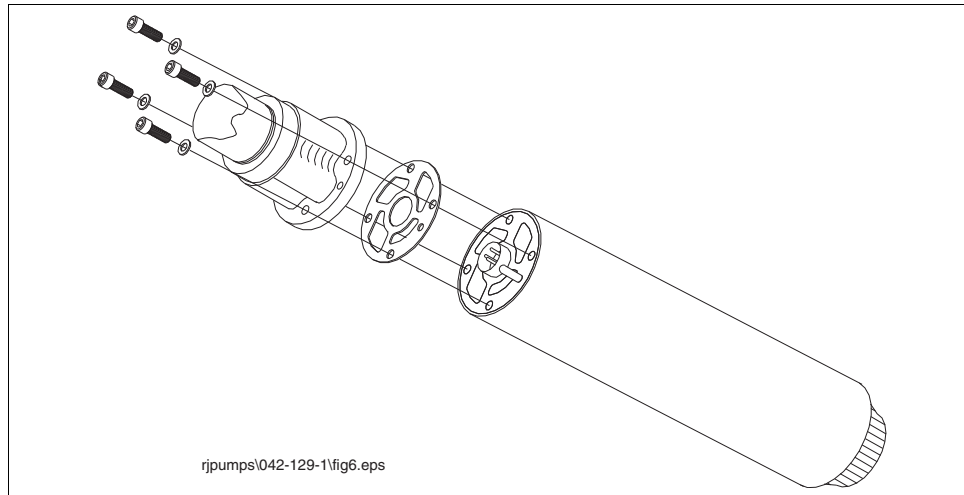

Figure 7. Aligning the UMP gasket
1. Place the new gasket on the new UMP so that all holes align (see Figure 7).
4. Install the UMP retaining bolts and lock washers (see Figure 7). Snug and then torque the bolts using a cross pattern. Torque to 7 ft-lb. (11 N•m).